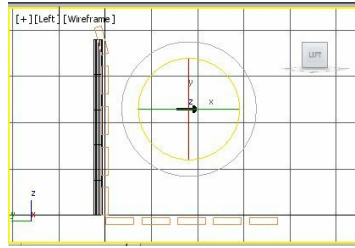

Figure 2-76 Rotating rivet001 in the Left viewport
2. In the **Offset:Screen** area of the **Rotate Transform Type-In** dialog box, enter **-90** in the **Z** spinner and press ENTER; *rivet001* gets rotated, as shown in Figure 2-76. Now, close the **Rotate Transform Type-In** dialog box.